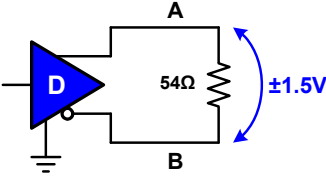
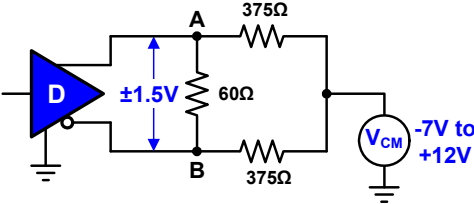

Figure 7. Differential Load Test Circuit
Figure 8. Common-Mode Load Test Circuit
- Figure 7. Differential Load Test Circuit 4
- Figure 8. Common-Mode Load Test Circuit 4
Unlike RS-422, RS-485 distinguishes between differential and common-mode bus loading. The maximum differential load is a 54Ω resistor across which a driver must produce a differential output voltage of ±1.5V minimum (Figure 7 on page 4). The maximum common-mode loading is specified with 32 unit loads (ULs) or 375Ω (Figure 8 on page 4). This resistor value is based on the relation of a single unit load (1UL) being equivalent to an input resistance of 12kΩ between each bus terminal and ground.
Figure 8 shows the driver output test circuit under common-mode load conditions, in which the driver must produce a minimum V_{OD} of $\pm 1.5V$. Here the 60Ω resistor presents the parallel circuit of the termination resistors and the 375Ω resistors represent the total common-mode load of 32ULs.